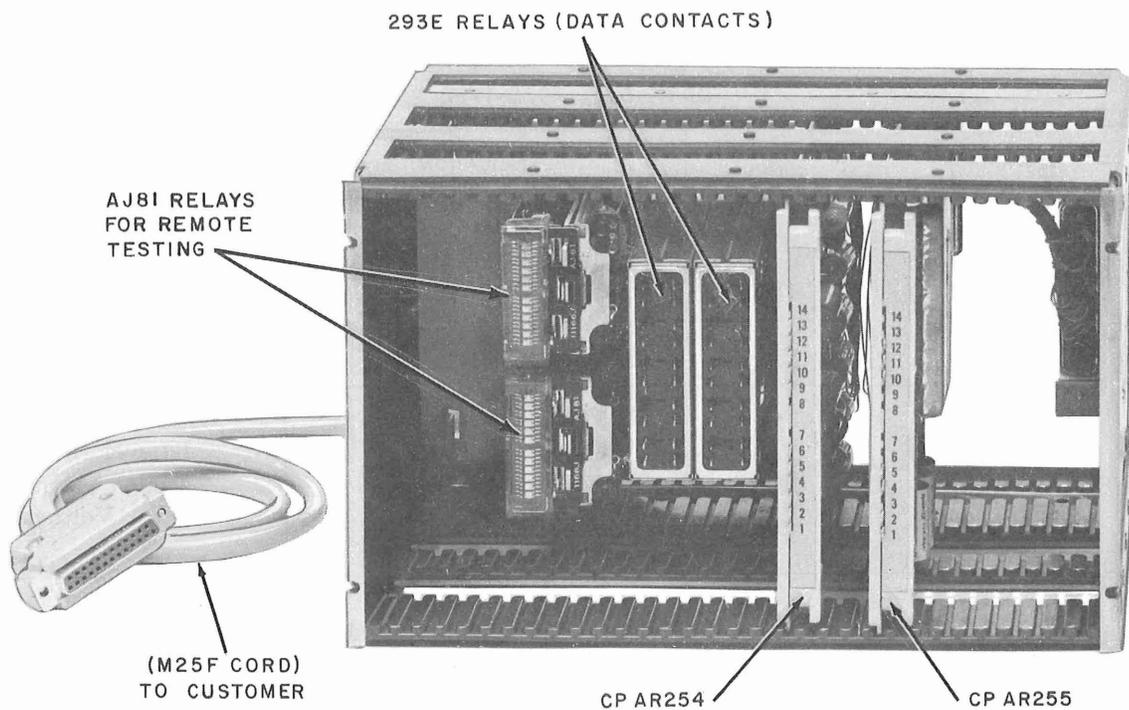

Fig. 2—15A1 Data Unit—Front View Components
2.01 The 15A1 Data Unit (Fig. 2) consists of two circuit packs (CP AR254 and CP AR255) plugged into a frame. The frame also contains two AJ81 relays, two 293E relays, interconnecting wiring, a connector at the rear to mate with a connector on a 3A-type Data Mounting, and a 3-1/2 foot M25F cord with attached interface connector for connecting the unit to a business machine. Test points are provided on the circuit packs.